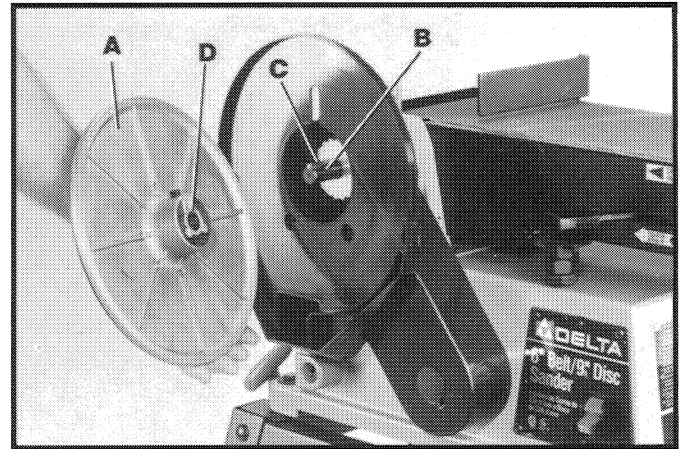

Fig. 9
1. Slide sanding disc plate (A) Fig. 9, onto drive shaft (B) making certain key (C) in drive shaft (B) fits into keyway (D) of disc plate (A).